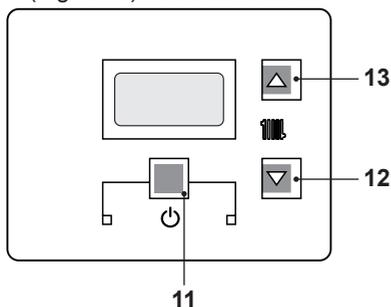
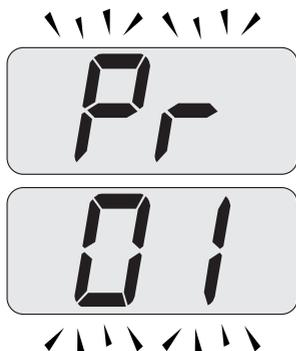
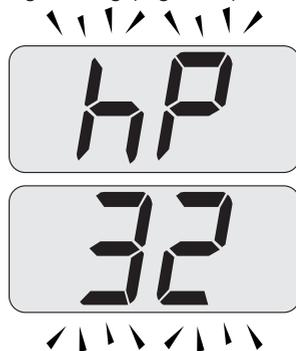

Fig. 9.18
Fig. 9.19
Fig. 9.21
- Enter in "programming mode" by pressing keys 11 - 12 - 13 (Fig. 9.18) for 10 seconds at the same time until the letters **Pr** that alternate with code **01** are displayed on the LCD display, indicating that "parameter 01" (Fig. 9.19) has been activated.
- Press keys 12 and 13 (Fig. 9.18) at the
- By pressing 13 (Fig. 9.18) it is possible to change power in chimney sweep mode: with the letters **hP** on the LCD display which alternate between the heated water temperature (i.e. **32**), we are in the "chimney sweep function" at the minimum power during heating (Fig. 9.21).
- Press keys 11 - 12 - 13 (Fig. 9.18) at the same time again to exit the "chimney sweep mode" and return to the previously set boiler status (Fig. 9.24).